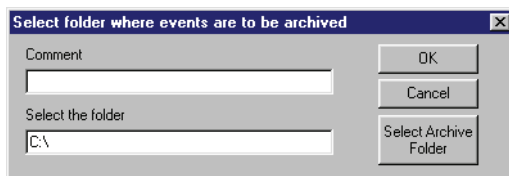

Figure 5-16: Select Folder For Archive File Window
4. Click on the button. The Select Folder for Archive File window will appear (see Figure 5-16).